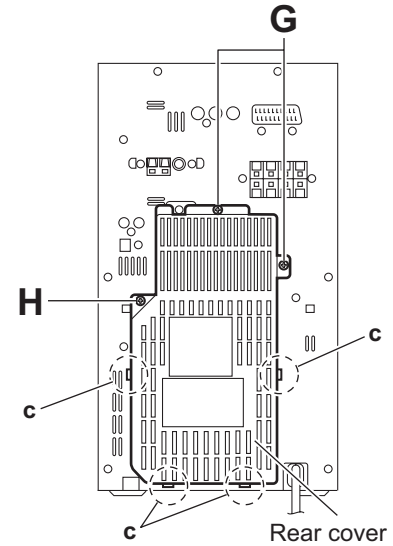

Fig.11
- (3) From the back side of the main body, remove the two screws **G** and screw **H** attaching the rear cover. (See Fig.11.)
- (4) Release the sections **c** and remove the rear cover. (See Fig.11.)